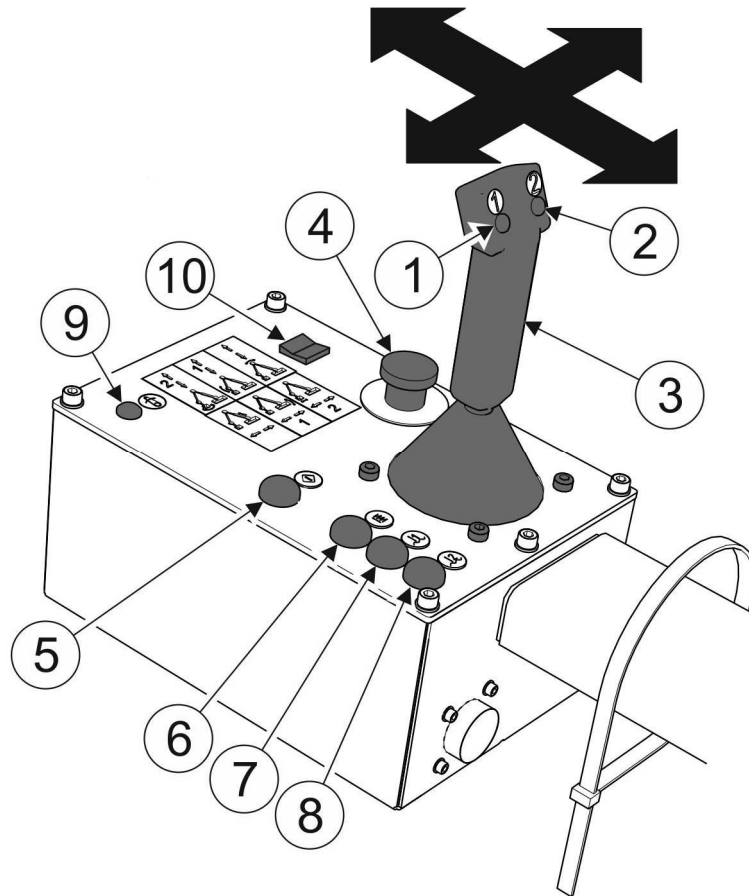

FIG. 4.4 Control panel of multifunction arm.
The arms and working head are controlled by means of control panel installed in the cab of the universal carrying vehicle (FIGURE. 4.4).
Individual functions of control lever (FIGURE 4.4 / 4.5):
After setting the working head in working position, engage working head drive by pressing push-button (8) on the control panel (FIGURE 4.4). Ramp time for activation of working head drive is about 2 seconds. When ground surface tracking is required for the working head, engage floating position of the arm and working head by pressing push-buttons (6) and (7).